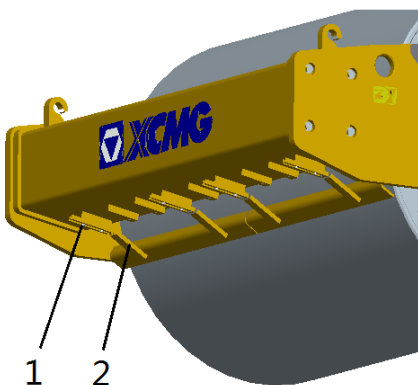

Figure 3-7
3.4.1.5 Scrapers-check,adjustment (Figure 3-7, 3-8)